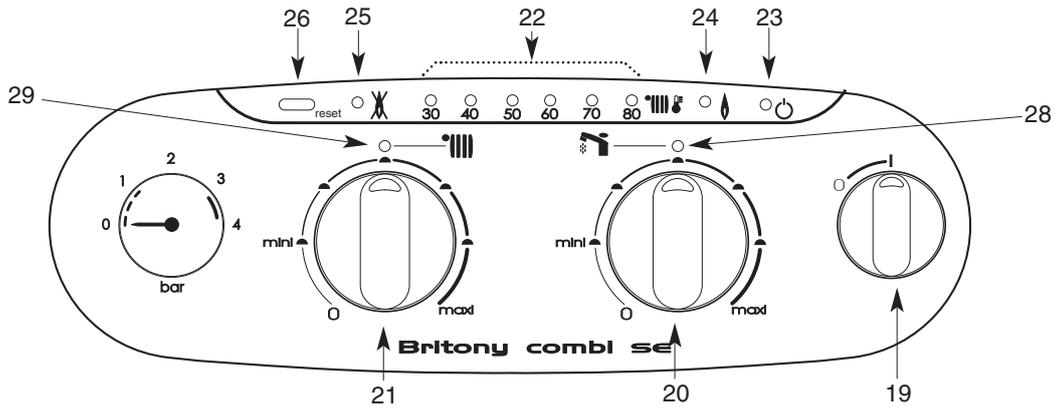
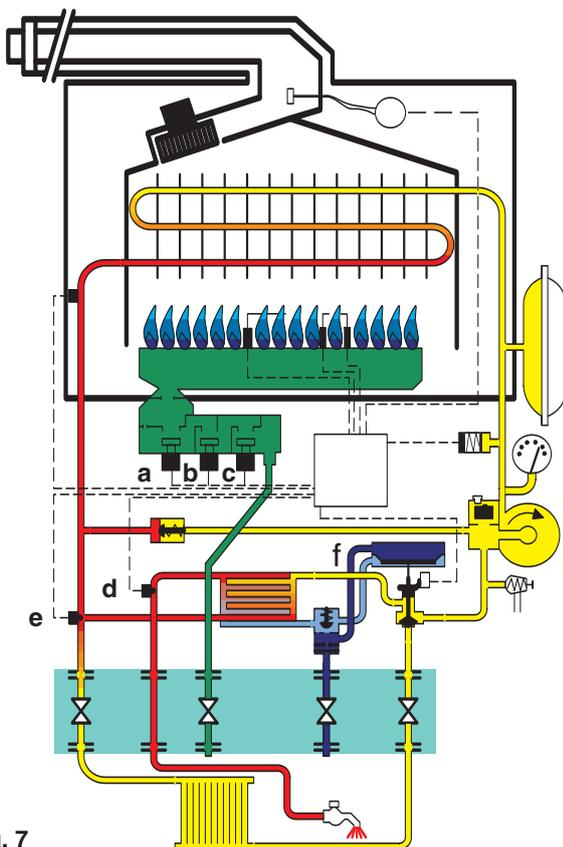

Fig. 6
Fig. 7
In order to supply hot water, the main switch **19** Fig. 6 must be in ON position **I**. This will be confirmed by the green indicator light **23** Fig. 6. Turn the selector switch **20** clockwise to establish the green DHW indicator **28** Fig. 6. When a tap or shower is turned on, the flow of mains water, above 2 litres per min., will activate the 3 way valve **f** Fig. 7 to move to the DHW position. The pump will now circulate primary water heated by the main heat exchanger through the secondary heat exchanger.
The first stage solenoid **a** Fig. 7 and safety solenoid **c** Fig. 7 open together to allow gas to the burner. The ignition sequence begins and a continuous high speed spark ignites the gas. As soon as a flame is detected the orange indicator bulb **24** Fig. 6 will light and the second
stage solenoid **b** Fig. 7 opens to allow the full gas rate. If a flame is not detected, after 8 seconds, the security solenoid closes and shuts off the gas. The red lockout indicator bulb **25** Fig. 6 will show. The domestic hot water temperature is controlled by the hot water control thermistor **d** Fig. 7 and the central heating control thermistor **e** Fig. 7. This system anticipates the changes of temperature in the secondary heat exchanger and ensures accurate temperature regulation.
To be able to supply heating, the main switch **19** Fig. 6 must be in **I** position. This will be confirmed by the green indicator light **23** Fig. 6. Turn the selector switch **21** clockwise to establish the green heating indicator **29** Fig. 6.
When there is a demand for heating (either from the room thermostat or the clock) and the boiler temperature control is calling for heat. The pump starts allowing the ignition sequence to begin. The first stage solenoid **a** Fig. 7 and safety solenoid **c** Fig. 7 open together to allow gas to the burner. The ignition sequence begins and a continuous high speed spark ignites the gas. As soon as a flame is detected the orange indicator bulb **24** Fig. 6 will light. After 45 seconds the second stage solenoid **b** Fig. 7 opens to allow the full gas rate. If a flame is not detected, after 8 seconds, the security solenoid closes and shuts off the gas. The red lockout indicator bulb **25** Fig. 6 will show.
The central heating flow temperature is controlled by the central heating control thermistor **e** Fig. 7. The boiler has been designed to minimise cycling and will not attempt to relight for at least 3 minutes after the boiler thermostat has been satisfied (it is possible to reduce the time to 30 s if necessary). When the room thermostat is satisfied the burner will switch off and the pump will remain running for a further 4 minutes before it stops.
**NB** : It is possible to override the 3 minute delay by pressing the RESET button **26** Fig. 6.